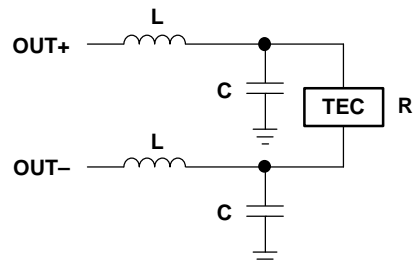

Figure 17. LC Output Filter
The transfer function for a 2nd order low-pass filter (Figures 17 and 18) is shown in equation (2):
For the DRV591, the differential output switching frequency is typically selected to be 500 kHz. The resonant frequency for the filter is typically chosen to be at least one order of magnitude lower than the switching frequency. Equation (2) may then be simplified to give the following magnitude equation (3). These equations assume the use of the filter in Figure 17.